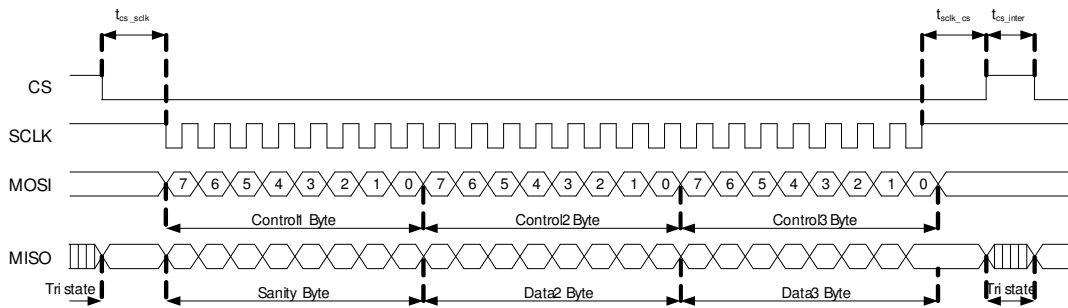

Figure 2: SPI Timing Diagram
A SPI timing diagram is given in Figure 2. This is the general format for sending a command. First the CS pin must be set low so that the sensor can accept data. The low level on the CS pin in combination with the first rising clock edge is used to start an internal synchronization counter that counts the incoming bits. Data on the MOSI pin is clocked in at the rising clock edge. Data on the MISO pin is shifted out during the falling clock edge. Note that the tri-state of the MISO pin is controlled by the state of CS.
The thresholds can be read back with the Read Thresholds (RT) command after a WT command or before a SI command. During a 1 bit or 1.5 bit RO sequence, the content of the DAC register is also available in the output data frame (see also 9.2.4.3). Table 5 defines the RT command. The read-out Data2 byte contains both the High and the Low thresholds (see also Figure 2).